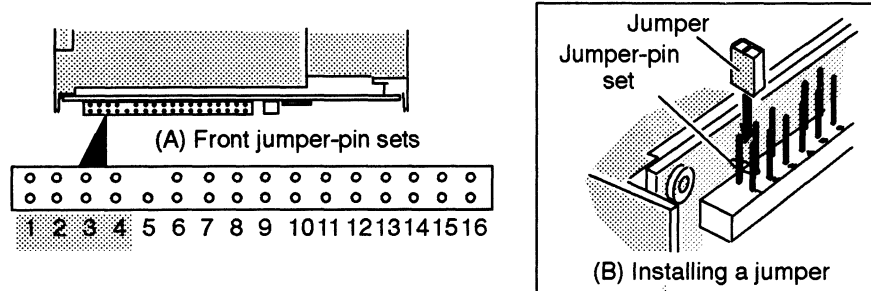

Figure 5 SCSI ID jumper settings, (A) The location of the jumper-pin sets at the front of the Model 61005-W, 61006-W, or 61007-W drive, (B) Installing a jumper
2. Once you choose the SCSI ID number, install the jumpers for that ID number by referring to Figure 5.
For example, if you choose SCSI ID 1, install a jumper across front jumper-pin set 4 as indicated in the table of Figure 5 by the word IN. Do not install jumpers across front jumper-pin sets 2 and 3 as indicated by the word OUT.